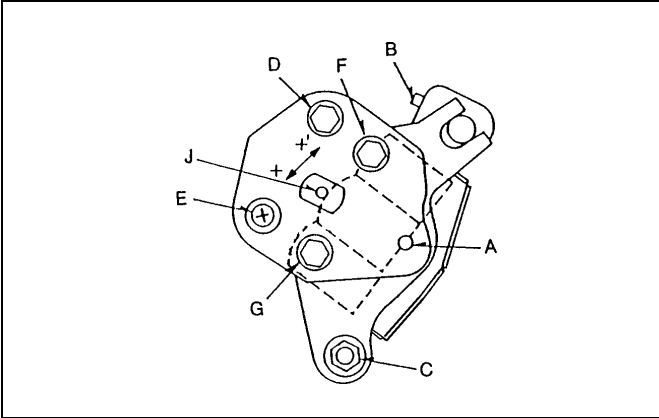

Figure 7-7-3 Screws of the A/C Head
- 1. Confirm that the clearance between head and head mounting plate is parallel and approximately 1mm as shown in figure 7-7-3. If not, adjust screws (D) and (E) and hex screw (A), which are shown in figure 7-7-3, so that the clearance is parallel and approximately 1mm.